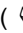

*Fig. 45: Insert process connection (inlet)*
4. ➤ Insert the process connection (inlet) into the device body (inlet) (Fig. 45)